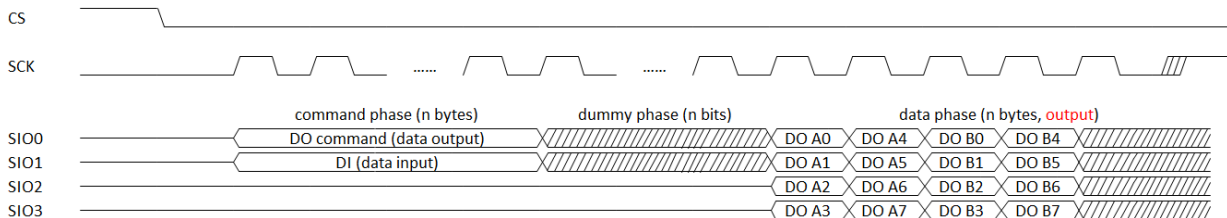

Figure 6.3-4. SPI master quad mode write data
- SPI master quad mode. The quad mode SPI is a 6-pin protocol. Set the register **SPIM_TYPE** to 2 to enter this mode. Similar to dual mode, in quad mode, the SPI master controller only supports half duplex, and the data transmission direction is configured by register **SPIM_RW_MODE** (0: read data, 1: write data). The registers **SPIM_DUMMY_CNT**, **SPIM_COMMAND_CNT** can also be activated. The quad mode data transmission diagram is shown in Figure 6.3-4 and Figure 6.3-5.